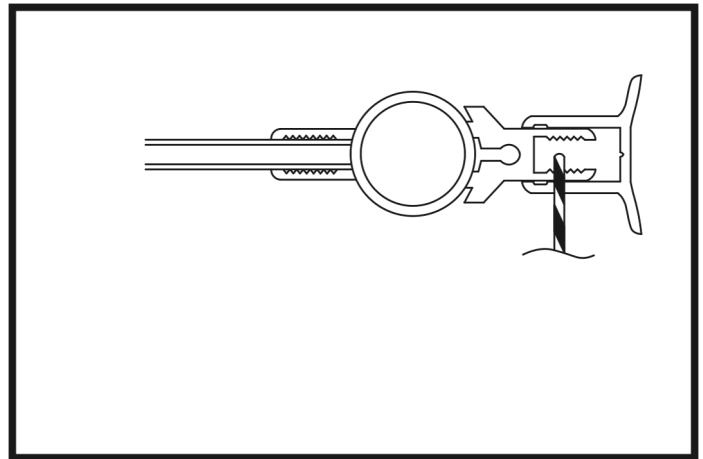

Figure 7
12. Start by drilling the top hole, through the hinge bar profile and the hinge. Drill the holes carefully so that the drill only passes through one half of the profiles, not the entire product. (Fig 7)